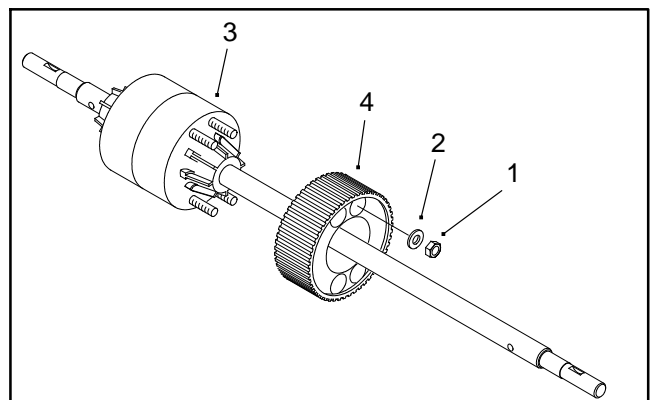

Figure 42
11. Remove lock nuts and flat washers from the differential assembly and pulley. Slide pulley clear of threads and differential axle (Fig. 42).
2. Slide pulley onto differential axle so threads extend through pulley. Secure lock nuts and flat washers to the differential assembly and pulley. (Fig. 42).